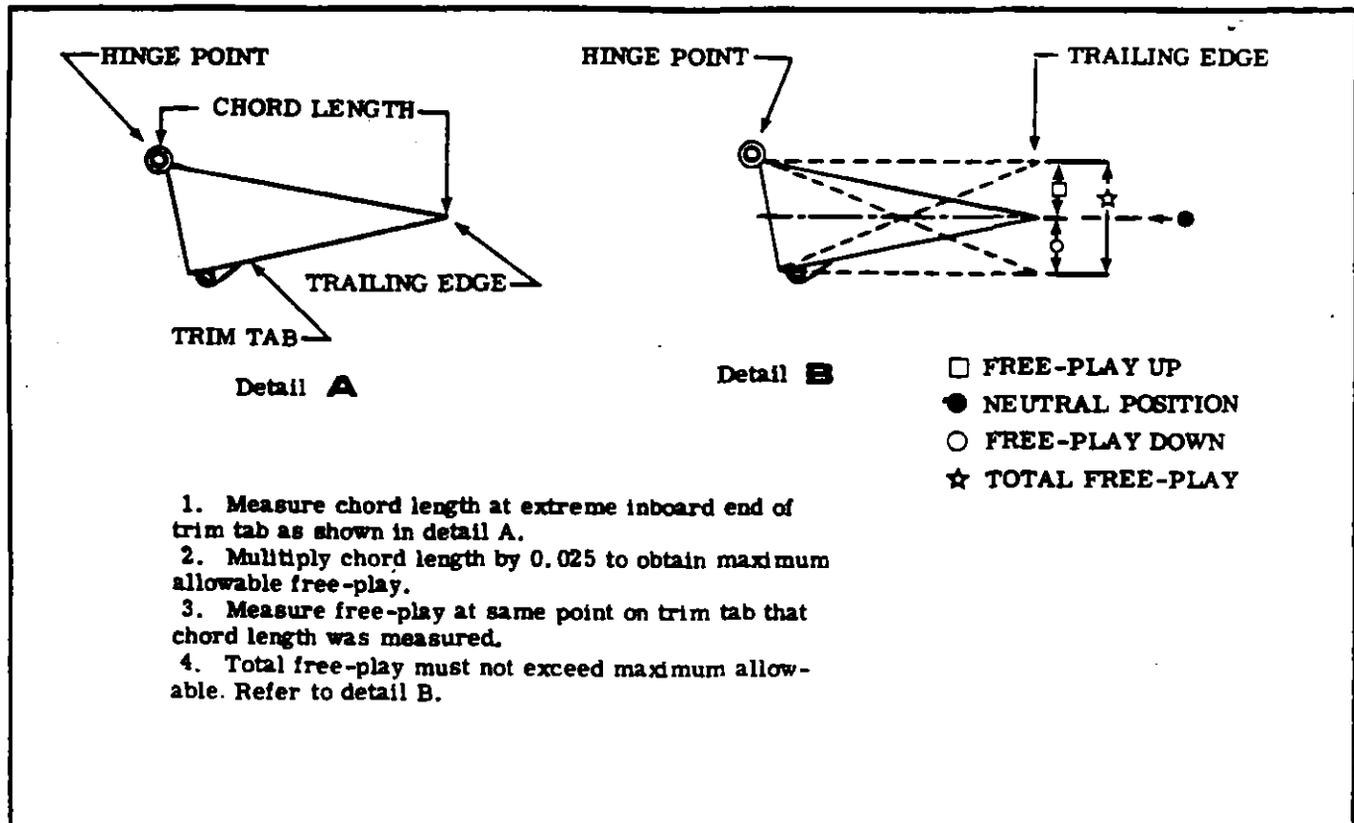

Figure 9-2. Trim Tab Free-Play Inspection
- b. Determine maximum amount of allowable free play using formula shown in figure 9-2.